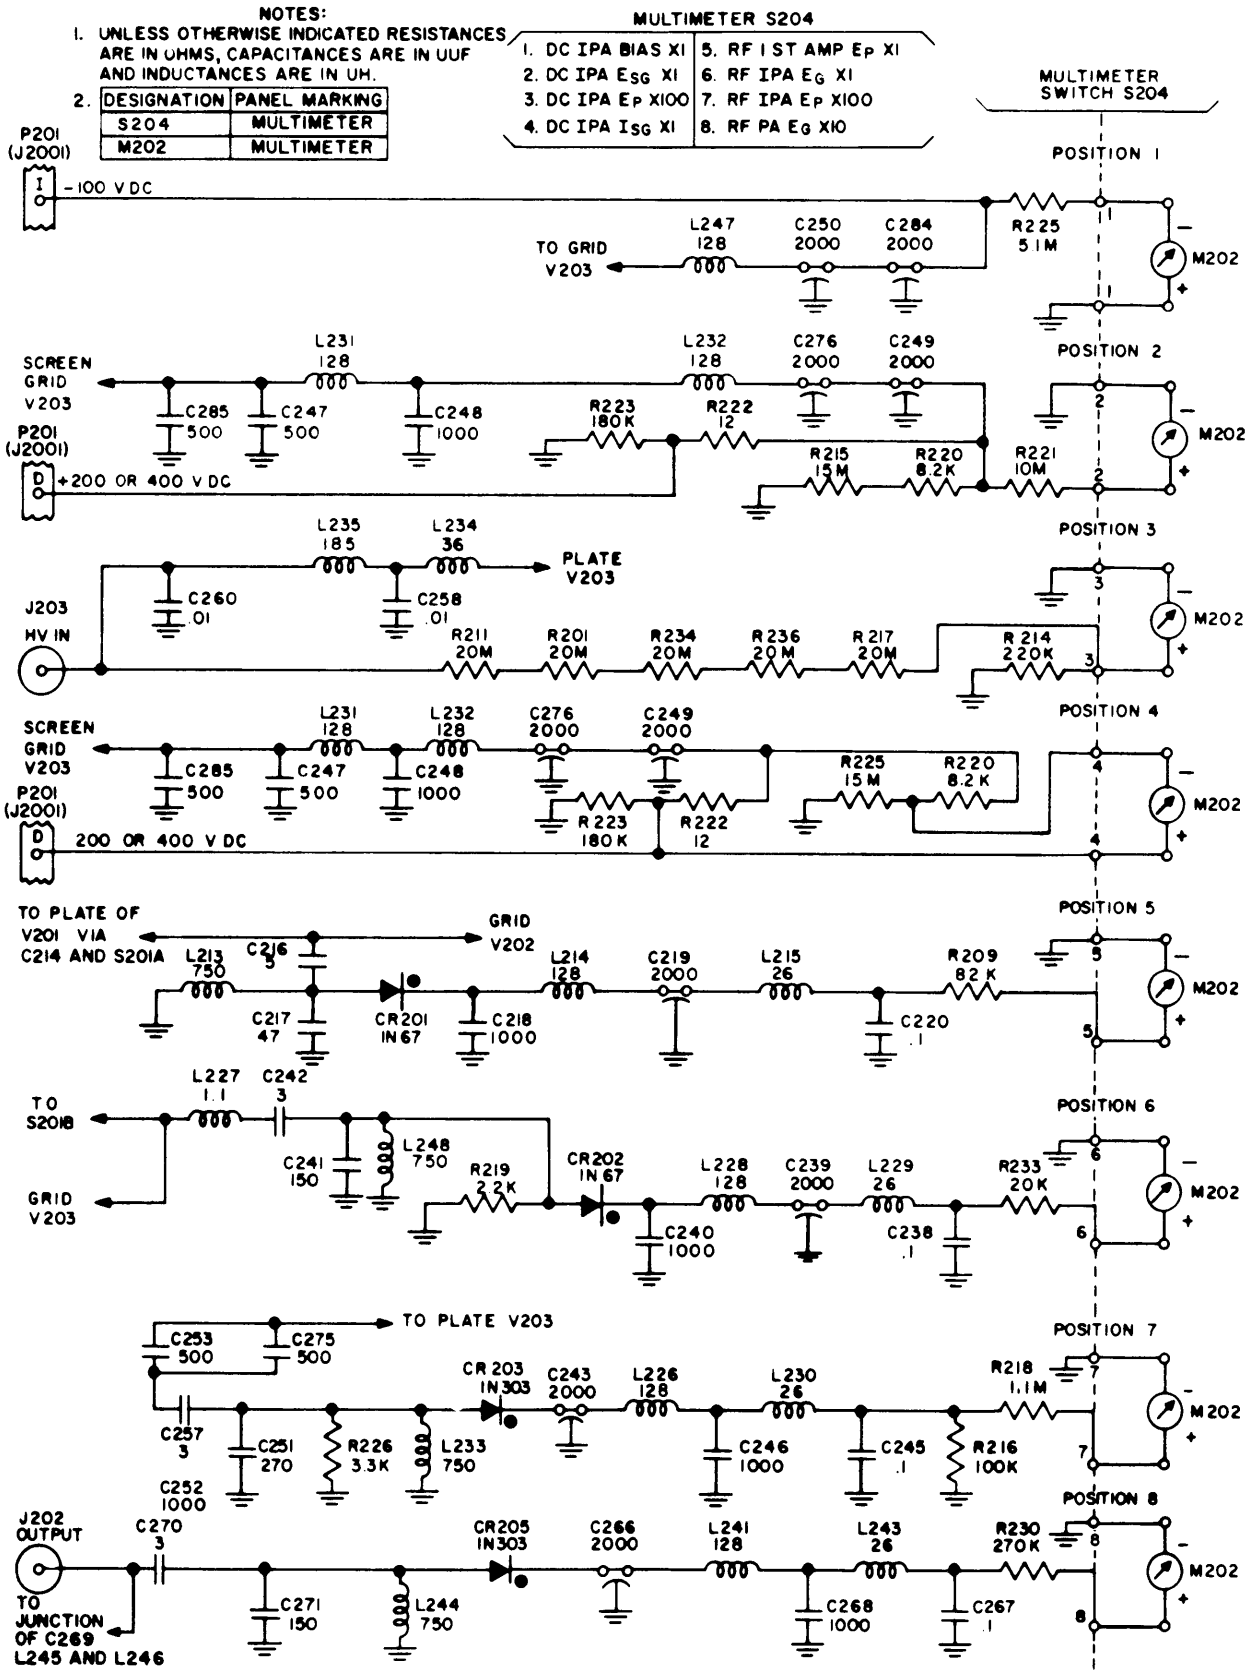

Figure 2-7. MULTIMETER Switch S204, Circuits
d. METER SWITCHING. (See figure 2-7.)
Figure 2-7 shows the eight circuits that can be monitored on MULTIMETER M202 and indicates how MULTIMETER switch S204 connects the multimeter to the circuit in each position. When switch S204 is in position 1, the positive terminal of M202 is connected to ground and the negative terminal is connected to the -100-volt dc output of the AX-104 through multiplier resistor R225. Since this voltage is derived from a voltage divider across the -150-volt dc output of the power supply, if the voltage monitored with switch S204 in position 1 is normal, it can be assumed that the -150-volt dc output of the AX-104 is also normal. The -100 volts dc is applied to the grid of intermediate power amplifier V203 through feed-through capacitors C250 and C284 and inductor L247.
The remaining four positions of switch S204 are used when monitoring rf signals. In each of these positions, the rf voltage to be monitored is rectified and filtered before being applied to the meter. The rf signal at the output of V201 (or the input of V202) is coupled to its rectifier circuit through a capacitive voltage divider consisting of capacitors C216 and C217 (position 5, figure 2-7). During the positive half cycle, diode CR201 conducts, charging capacitor C240. The dc voltage is filtered by the double pi network and is applied to meter M202 through resistor R209.